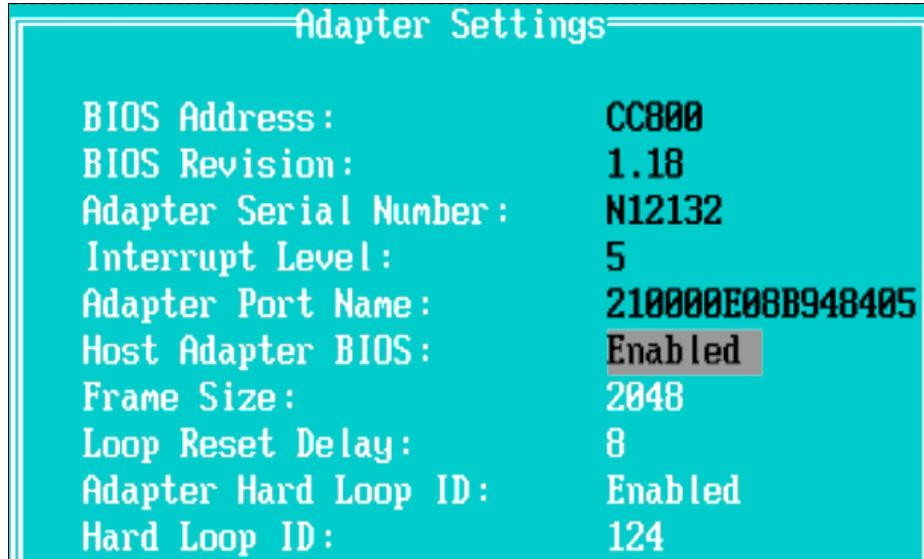

Figure 18-26 Enabling host adapter BIOS
6. Scroll to Host Adapter BIOS, as shown in Figure 18-26.